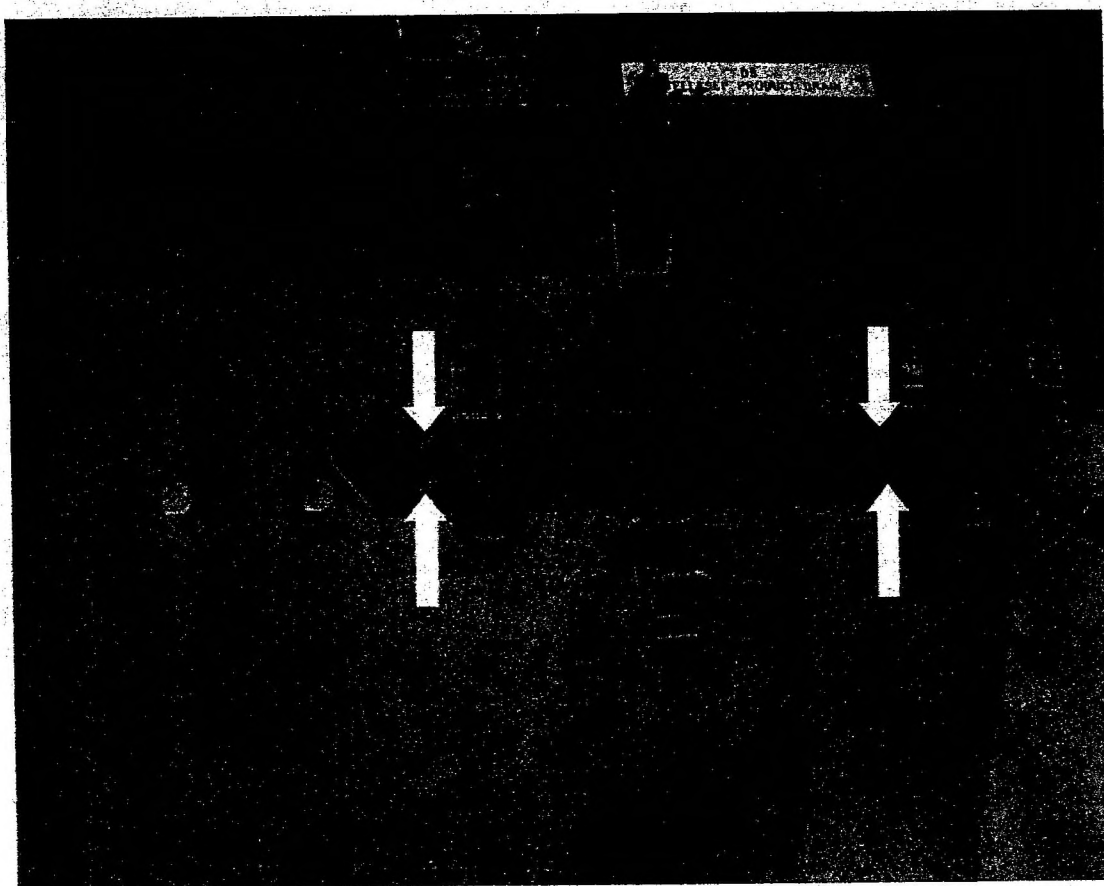
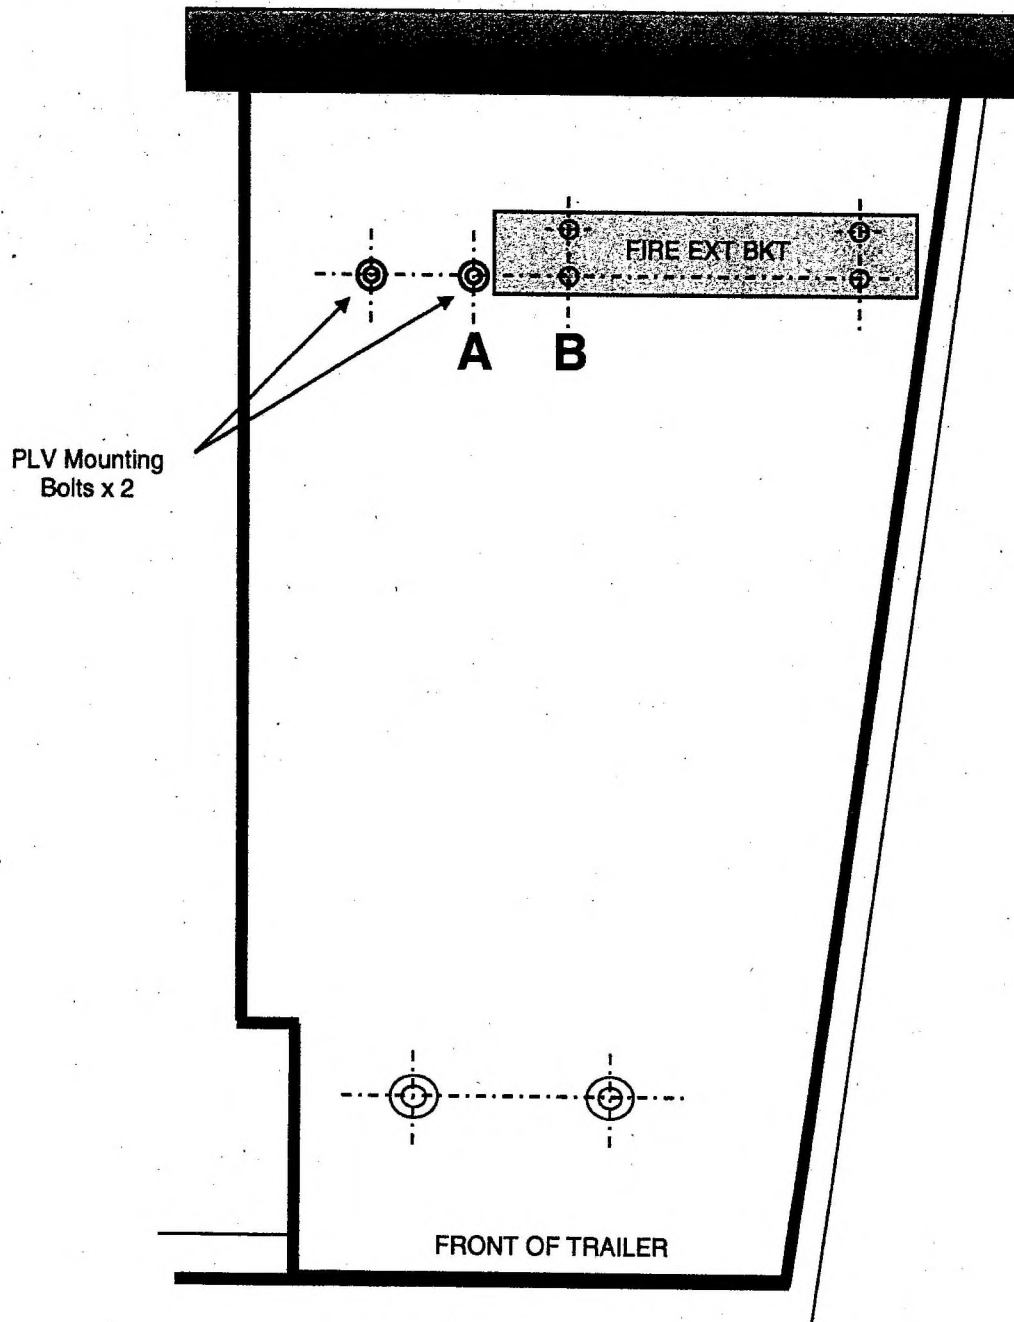

Fig 3 Location of fire extinguisher bracket mounting holes
Fig 4 Positioning of fire extinguisher bracket
9.5 Identify the correct mounting holes on the fire extinguisher bracket. (See Fig 3.)
9.6 Place the bracket on top of the floor plate next to the two PLV mounting bolts. (See Fig 4.) Ensure that the head of the extinguisher bracket is facing inwards. (See Fig 3.)
9.7 Ensure that the distance from point 'A' to point 'B' is 5.5 cm (see Fig 4) and that the bracket is parallel to the trailer body. If correctly positioned the bracket should not overlap the PLV mounting bolt (marked 'A') and will not hang over the chassis of the 'A' frame.